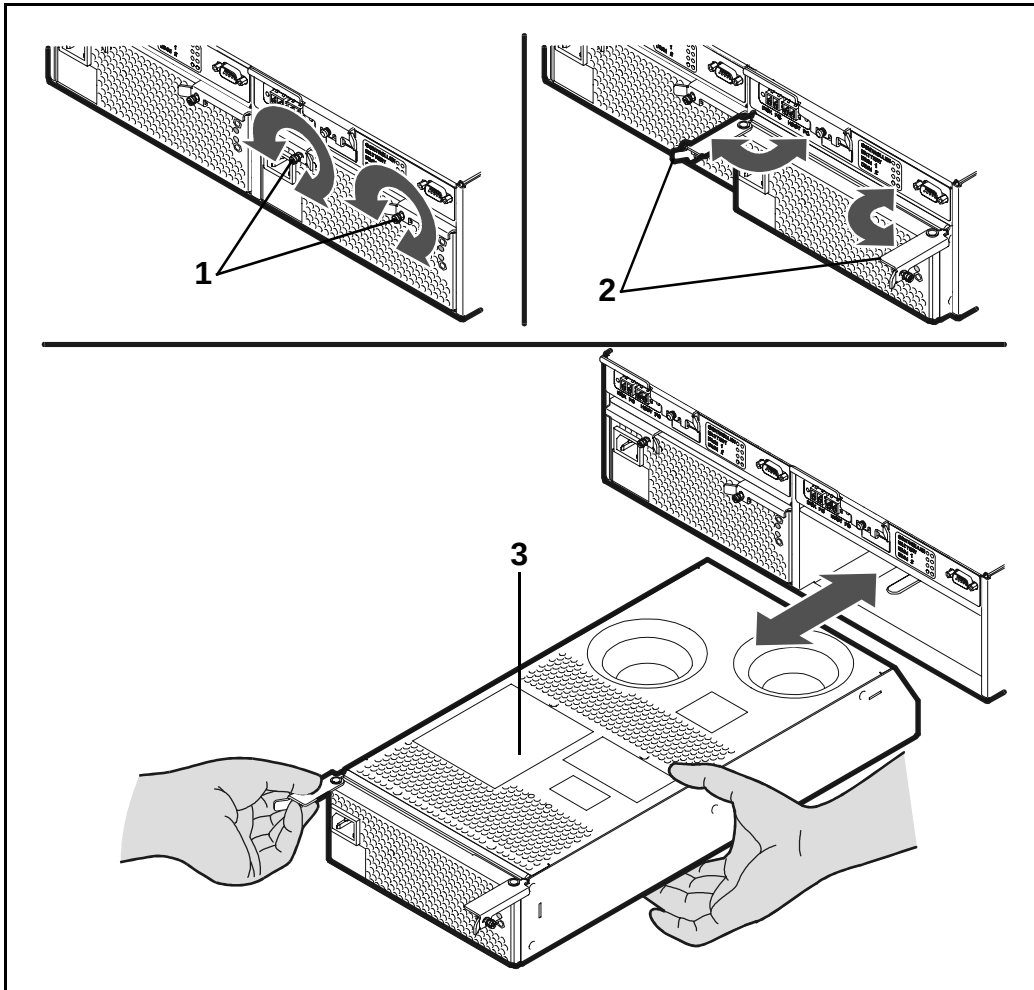

Figure 27 Removing & Replacing a Power Module (Controller Enclosure)
2. Loosen the cam lever screws (Figure 27, 1) with a T-10 driver or flat-blade screwdriver.
3. Pull out both cam levers (2) at the same time.
4. Pull the power module (3) out of the slot.
1. Pull out both cam levers (Figure 27, 2) at the same time.
2. Push the power module (3) firmly into the slot.
4. Tighten the cam lever screws (1) with a T-10 driver or flat-blade screwdriver.